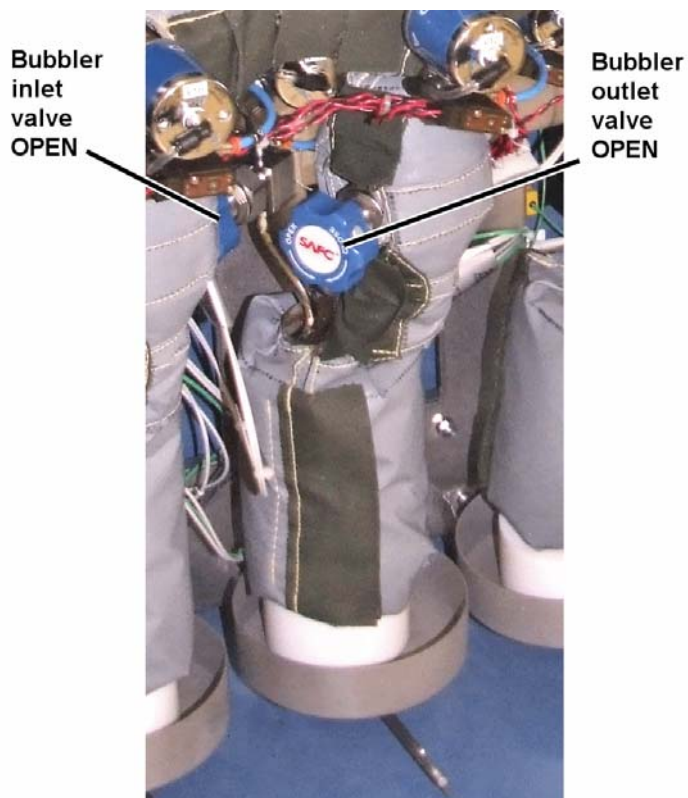

Figure 5-36 Ampoule manual valves set for bubbler mode
- 9 Open the manual inlet valve on the ampoule (see Figure 5-36).